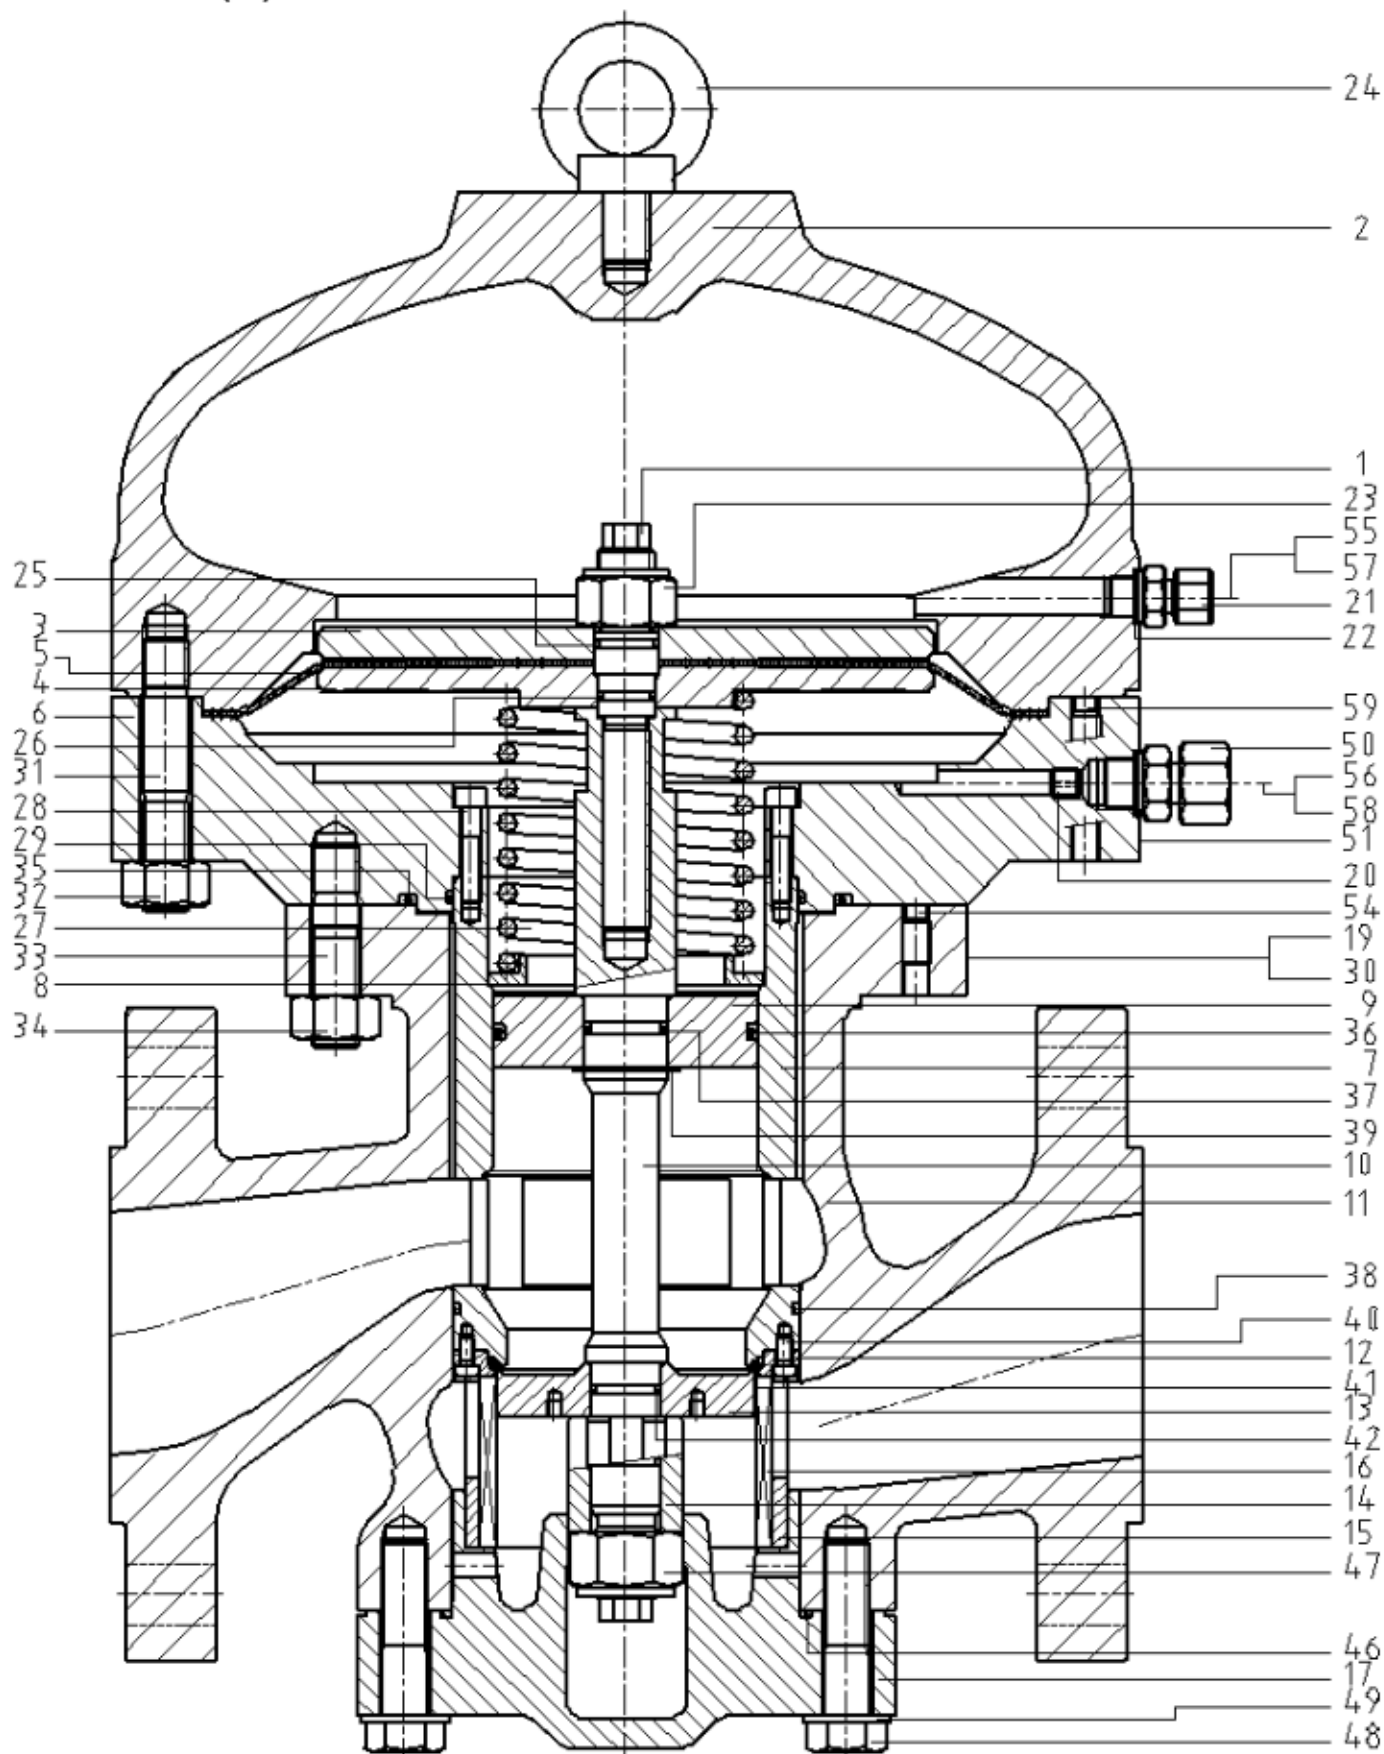

Figure 11: Component drawing R100S-2" to 8"
**5.9.1 Partslist R100S (M) 2" t/m 8"** See figures 11 and 12 for component drawing.